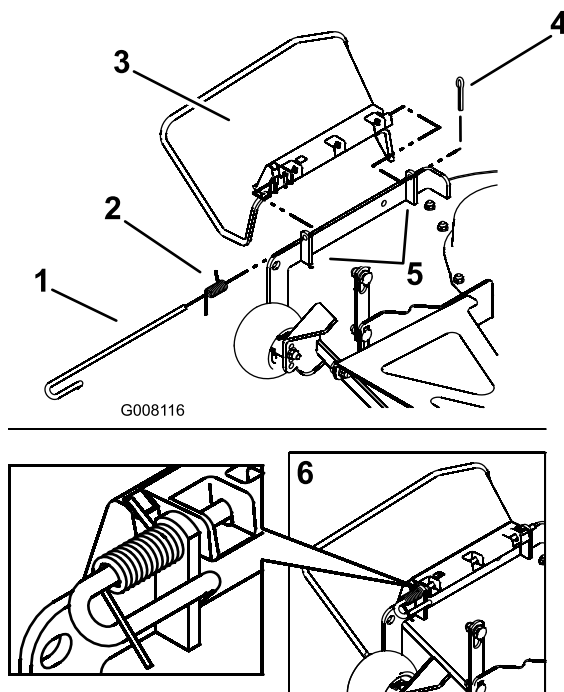

Figure 56
5. Make sure that the spring and rod are installed so that the rod is retained from sliding out by the front bracket and the spring holds the discharge deflector in the down position. Refer to (Figure 56) for proper orientation.
1. Locate items shown in Figure 56.
4. Orient the spring so that the short leg points towards the discharge deflector and the longer leg points towards the deck as shown in Figure 56. Place spring on rod and slide rod, straight end, through the front discharge deflector bracket, discharge deflector, and rear deflector bracket.